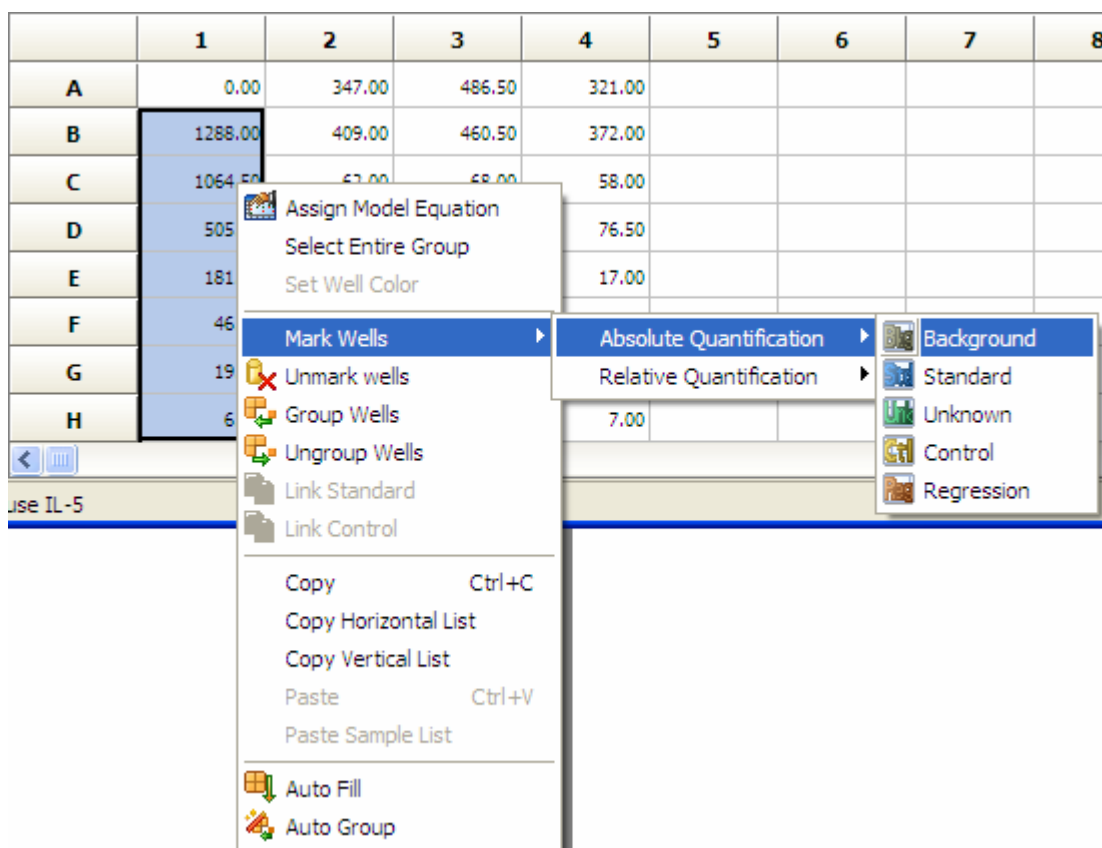

Figure 4.3 Well grid pop-up menu
2. To define (or *mark*) the well(s), right-click the selection and choose **Mark Wells** and a well type from the pop-up menu that appears Figure 4.3. You can also use toolbar buttons or menu bar commands to define the wells (Table 4.1).